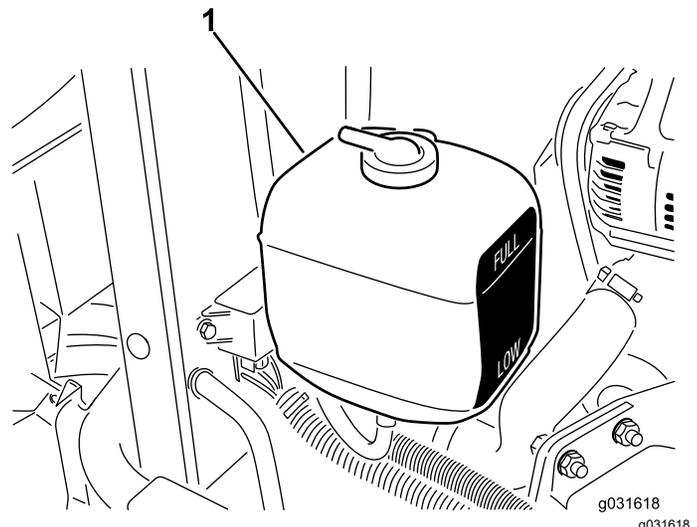

Figure 53
1. Check the coolant level in the expansion tank (Figure 53).